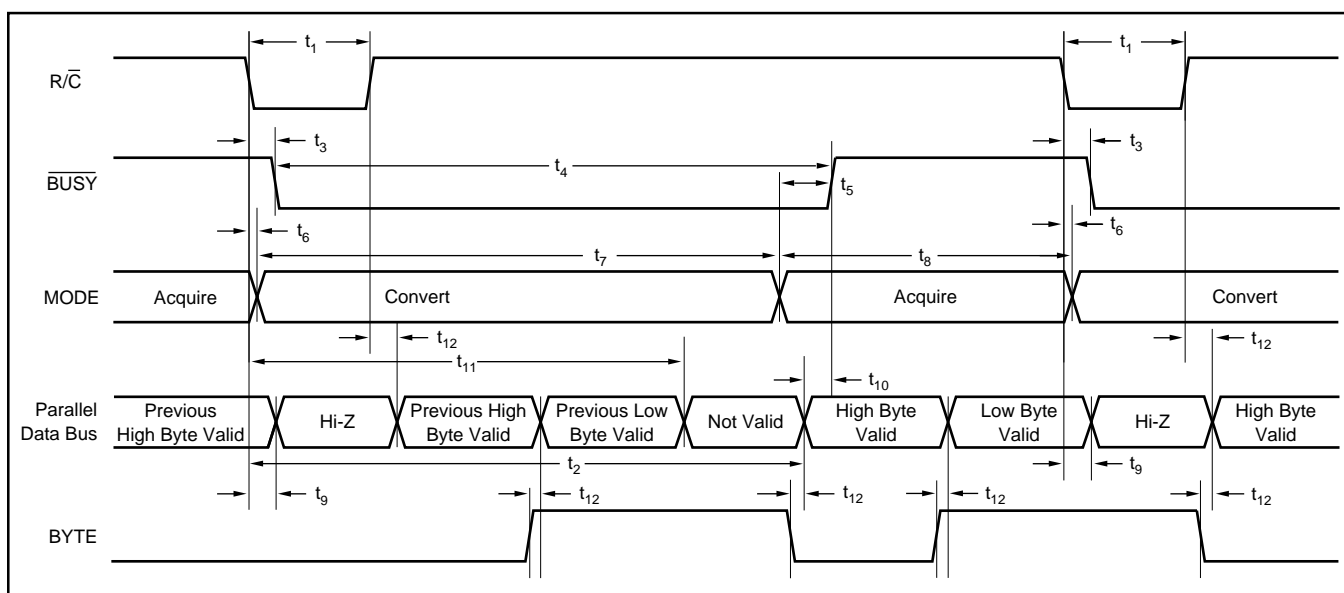

FIGURE 2. Conversion Timing with Parallel Output ( $\overline{\text{CS}}$  and  $\text{DATACLK}$  tied LOW,  $\overline{\text{EXT/INT}}$  tied HIGH).
The ADS7806 will begin tracking the input signal at the end of the conversion. Allowing 25 $\mu$ s between convert commands assures accurate acquisition of a new signal. Refer to Tables II and III for a summary of  $\overline{CS}$ ,  $R/\overline{C}$ , and  $BUSY$  states, and Figures 2 through 6 for timing diagrams.
NOTE: (1) See Figures 2 and 3 for constraints on data valid from conversion 'n - 1'.
After conversion 'n' is completed and the output registers have been updated,  $\overline{\text{BUSY}}$  (pin 24) will go HIGH. Valid data from conversion 'n' will be available on D7-D0 (pins 9-13 and 15-17).  $\overline{\text{BUSY}}$  going high can be used to latch the data. Refer to Table V and Figures 2 and 3 for timing constraints.
After conversion 'n' has been initiated, valid data from conversion 'n - 1' can be read and will be valid up to  $12\mu\text{s}$  after the start of conversion 'n'. Do not attempt to read data beyond  $12\mu\text{s}$  after the start of conversion 'n' until  $\overline{\text{BUSY}}$  (pin 24) goes HIGH; this may result in reading invalid data. Refer to Table V and Figures 2 and 3 for timing constraints.